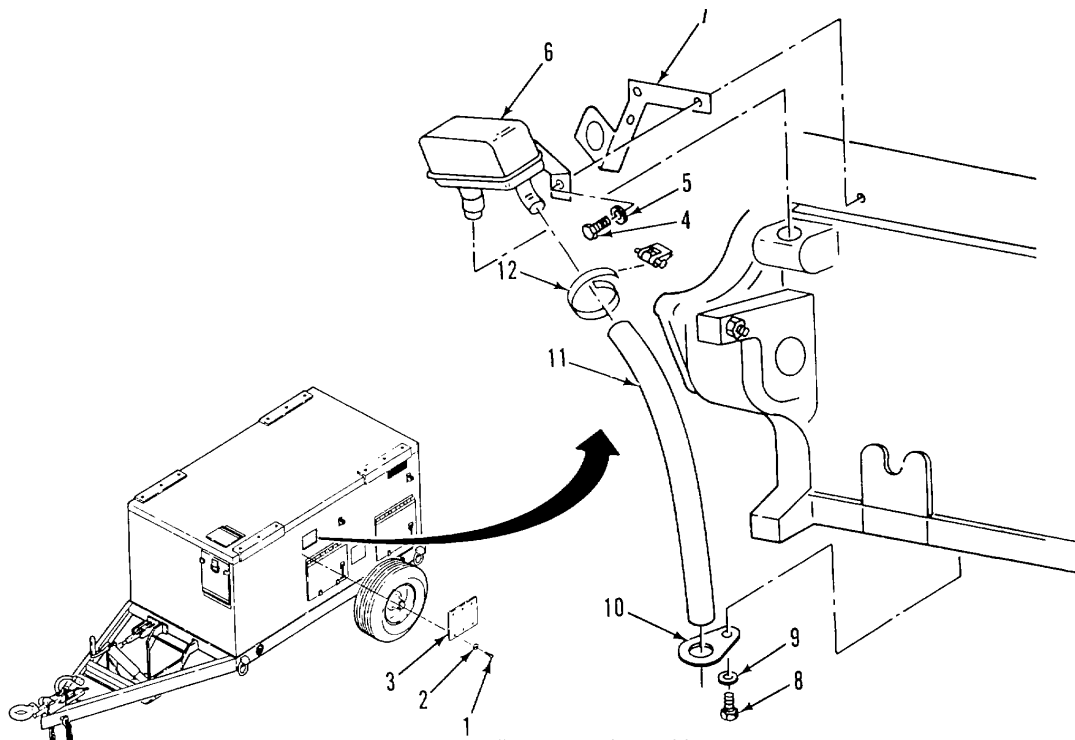

Figure 2-35. Oil Breather Assembly
a. REMOVE. (Figure 2-35)
- (1) Remove capscrews (1), flat washers (2), and muffler access plate (3).
- (2) Remove mounting bolt (4), and flat washer (5), oil breather assembly (6), and bracket (7).
- (3) Remove bolt (8), flat washer (9), and hose retaining bracket (10) from hose (11).
- (4) If necessary, remove hose clamp (12). Remove hose (13) from oil breather assembly (6).